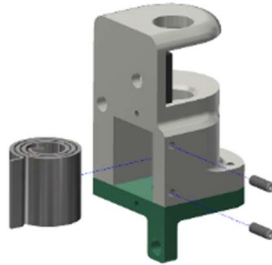

Figure 7-9. Remove two M4 X 0.7 X 20 LG. SSSFP SS
- 7.2.6 Remove two M4 X 0.7 X 20 LG. SSSFP SS from the Spine-Shoulder Coupler, Top (474-3501-1,2-A) (Figure 7-9).